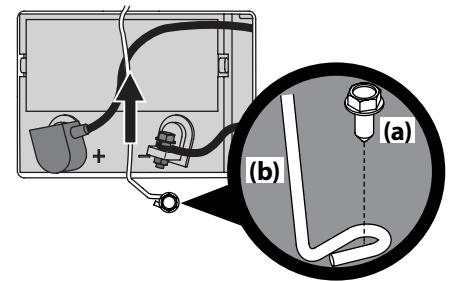

Figure 4-9
1. Remove the hex washer screw (a) securing the battery hold-down bracket (b) to the frame. Then flip the battery hold-down bracket (b) up to free the battery. See Figure 4-9.